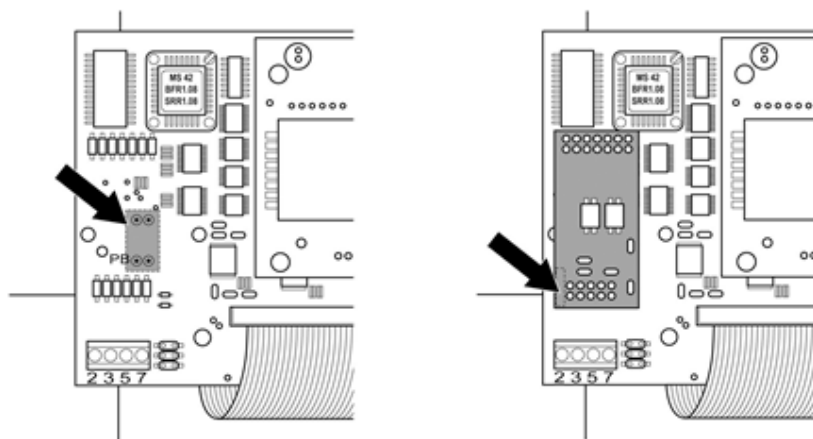

Figure 3: Control board before and after installation of the piggyback
- The Piggy Back has to be installed on the inverter's circuit board aligned to the left side under the pin contract strip (**Figure 3, left**).
The print "unten [down]" on the board has to be visible on the bottom left-hand side (**Figure 3, right**).